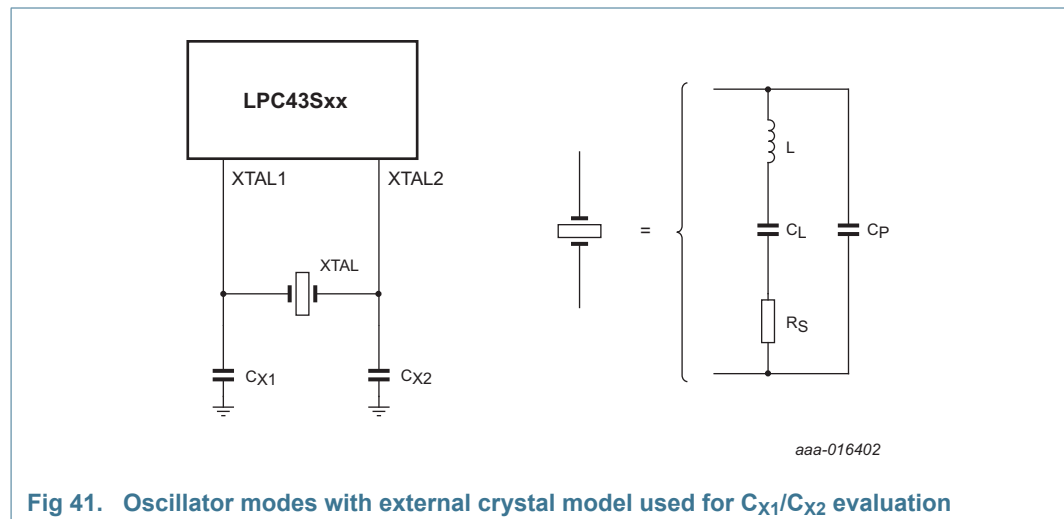

Fig 41. Oscillator modes with external crystal model used for C_{X1}/C_{X2} evaluation
- External components and models used in oscillation mode are shown in Figure 41, and in Table 43 and Table 44. Since the feedback resistance is integrated on chip, only a crystal and the capacitances C_{X1} and C_{X2} need to be connected externally in case of fundamental mode oscillation (the fundamental frequency is represented by L , C_L and R_S). Capacitance C_P in Figure 41 represents the parallel package capacitance and should not be larger than 7 pF. Parameters F_C , C_L , R_S and C_P are supplied by the crystal manufacturer.